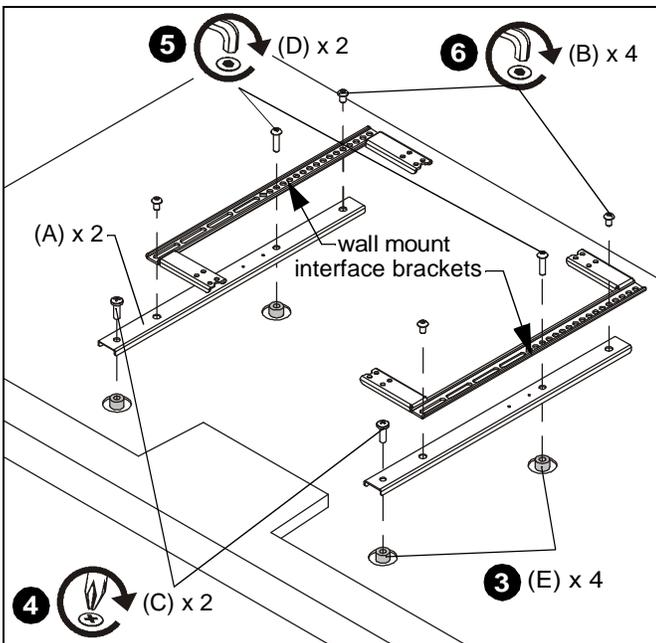

Figure 1
3. Position four spacers (E) over four holes on back of display. (See Figure 1)
4. Install two M8 x 25mm Phillips pan machine screws (C) through two channel brackets (A), spacers (E) and into back of display. (See Figure 1)
5. Install two M8 x 30mm button head cap screws (D) through two wall mount interface brackets, two channel brackets (A), spacers (E) and into back of display. (See Figure 1)
6. Use four 5/16-18 1/2" button head cap screws (B) to secure two wall mount interface brackets to two channel brackets (A). (See Figure 1)